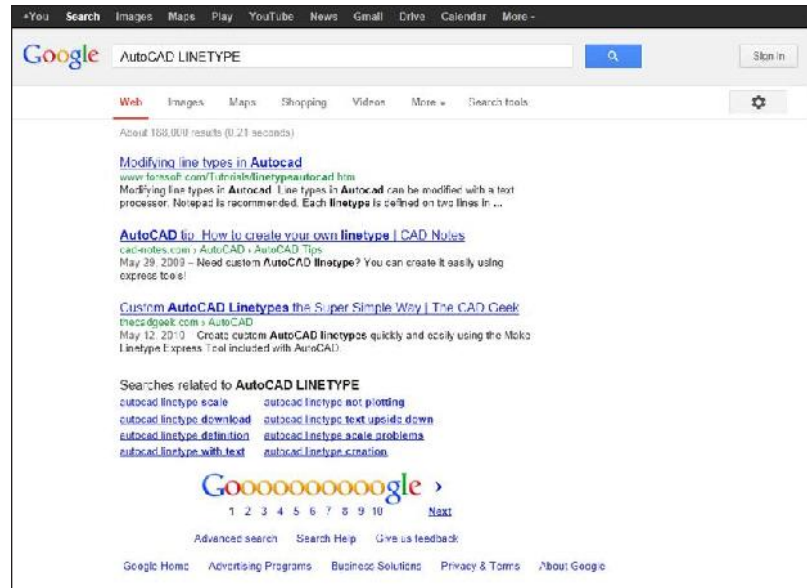

FIGURE 1.20: Google search performed by clicking the globe autocomplete icon for the LINETYPE command
2. Clicking the question mark icon will search the AutoCAD help documentation, whereas clicking the globe icon will search the Internet. Click the globe icon for the LINETYPE command, and the Google search page displays, as shown in Figure 1.20.